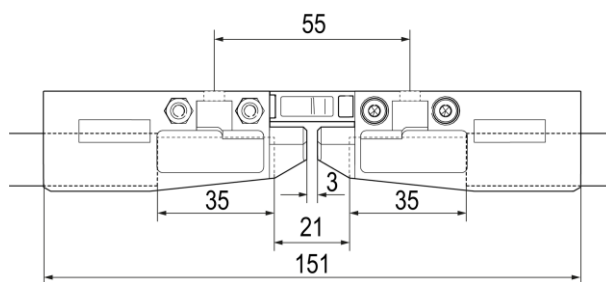

Fig. 74: Mounting dimensions of the air gap
- For exact positioning of the air gap, a conductor rail can be attached to the one end of the air gap. The distance between the two conductor rails in an air gap is 21 mm (see Fig. 74).
- Tighten side screws (S) to fix the conductor rails.